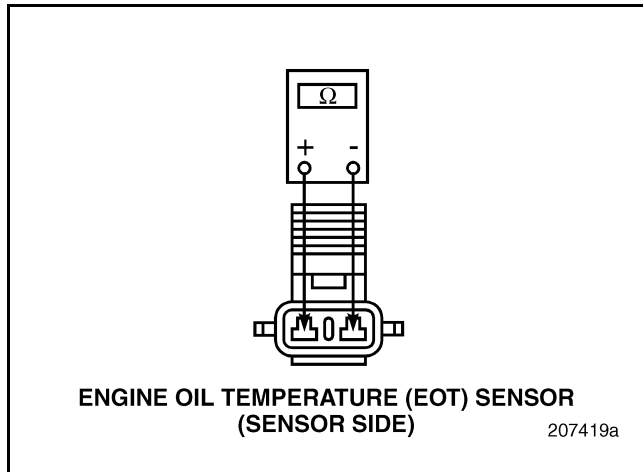

Figure 268
3. Measure the resistance across the pins of the EOT Sensor with the engine oil temperature between 32° and 194°F (0° and 90°C) (see Figure 268).